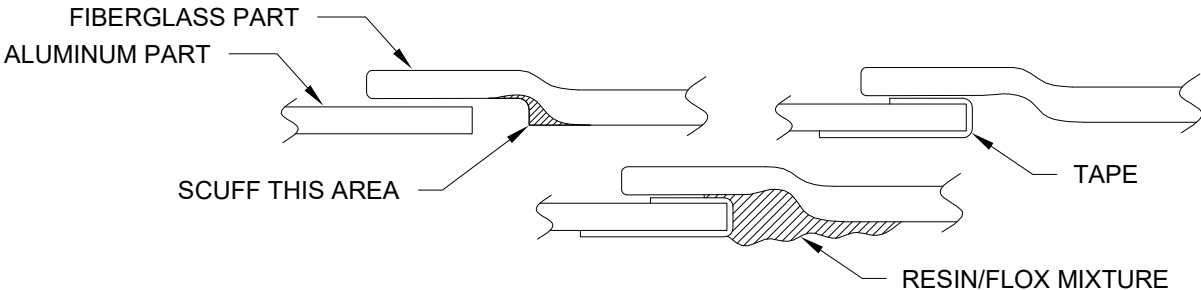

FIGURE 2: RESIN APPLICATION
- Step 3: Wrap electrical tape or equivalent around the inside surface of the metal part. See Figure 2. Insert and secure the fiberglass tip with either screws or clecos as appropriate, then finish wrapping the tape snugly around the edge of the metal. The tape will act as a release agent for the next step.